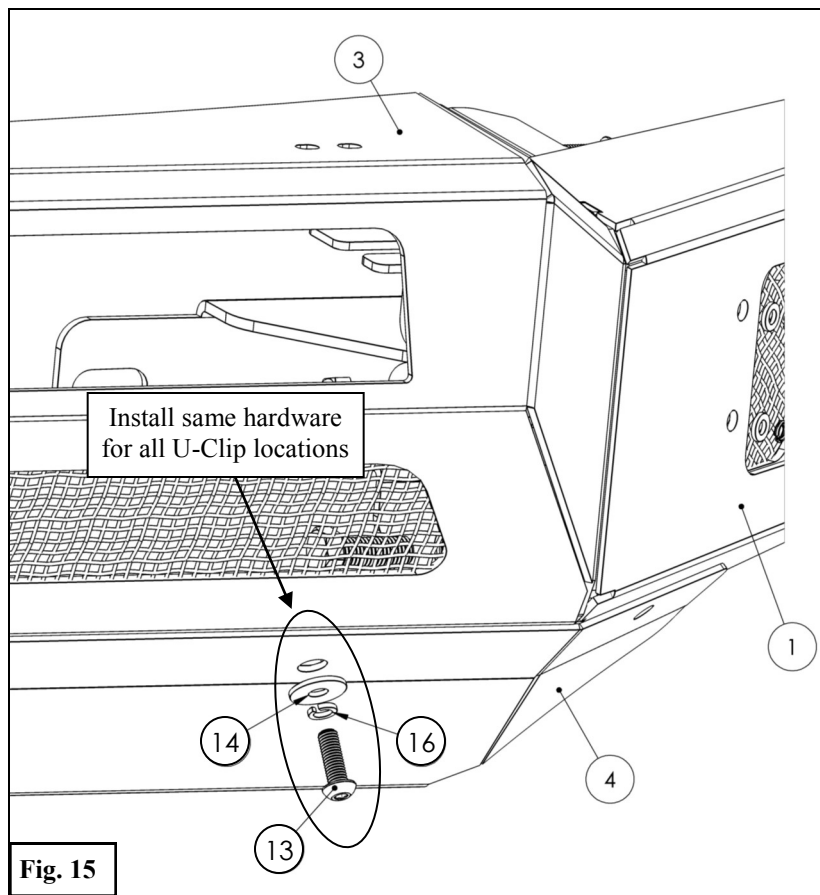

Fig. 15
14. Attach the Skid Plate (4) to the U-Clips (27) using the supplied M8 Hardware. See **Figure 15**.